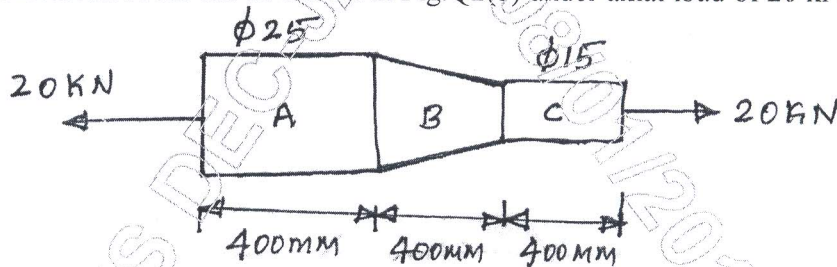

Fig.Q2(b)
- b. Find the extension of the bar as shown in Fig.Q2(b) under axial load of 20 kN, $E = 200 \text{ GPa}$.